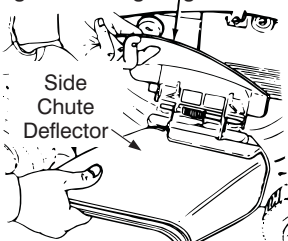

Figure 8
- On the side of the mower deck, lift the hinged mulching plug. See Figure 8.
- If the unit was set up for side discharge, lift the hinged mulching plug on the side of the deck and remove the side discharge chute. Lower the hinged mulch plug. See Figure 8.